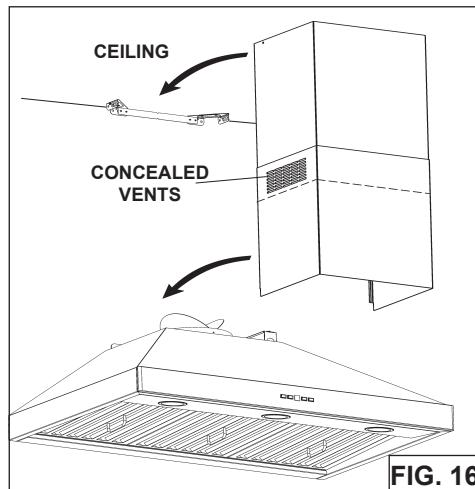

FIG. 16
6. Install upper and lower decorative flues onto the range hood. Vents are concealed on 8-foot ceilings. Vents may be exposed on 9-foot ceilings (Fig.16).